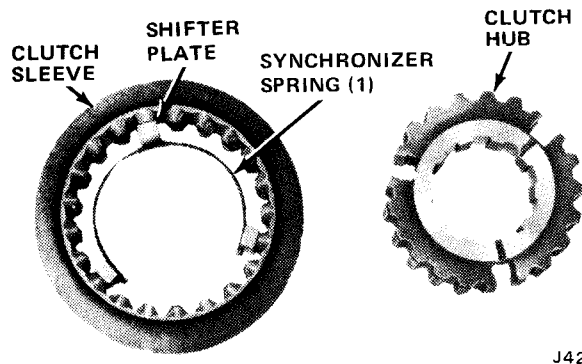
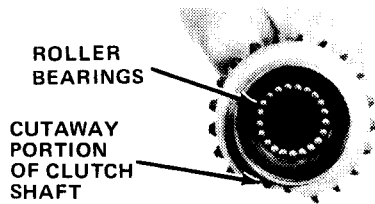
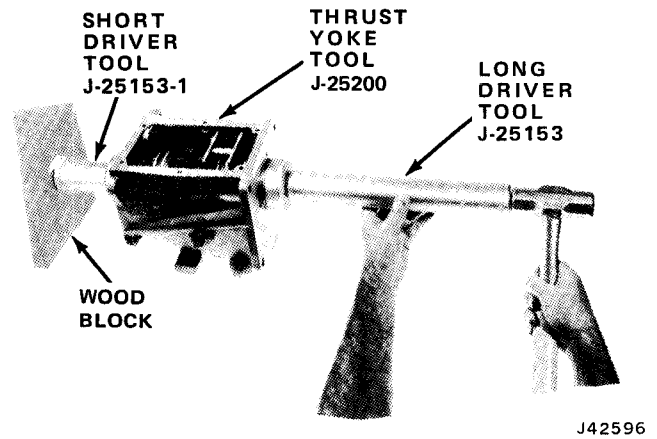
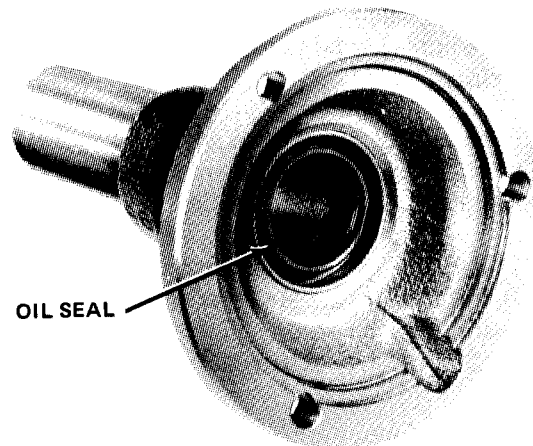

Fig. 6-26 First Gear Synchronizer Assembly
Fig. 6-30 Clutch Shaft Installation
Fig. 6-31 Front Bearing Installation
Fig. 6-33 Front Bearing Cap Oil Seal
(9) Install lock plate in slots of reverse idler shaft and countershaft. Tap end of shafts until lock plate is seated against case (fig. 6-30).
(10) Install First gear and blocking ring on main shaft.
(11) Assemble First gear synchronizer assembly (fig. 6-26). Index sleeve to hub using alignment marks made at disassembly. Install sleeve shifting plates and insert spring and install assembly on main shaft.
(19) Install clutch shaft in case with cutaway portion of shaft facing downward (fig. 6-30). Guide shaft onto main shaft. Do not displace main shaft pilot bearing rollers during installation.
(20) Install front bearing retainer on clutch shaft.
(21) Install lockrings on front and rear bearings and install bearings using Installer Set J-25153 and Thrust Yoke Tool J-25200 (to prevent damaging synchronizer parts during bearing installation).
(22) Install thrust yoke tool into Second gear groove and between clutch shaft teeth and blocking ring. Use both bearing driver tools from set J-25153 and wooden backup block when installing bearings (fig. 6-31 and 6-32).
(23) Install front and rear bearing retaining snap rings.
(24) Install rear bearing adapter, spacer, transfer case drive gear, flat washer, and locknut. Tighten locknut to 150 foot-pounds torque.
(25) Inspect front bearing cap oil seal. Replace seal if cut, worn, loose, or distorted (fig. 6-33).